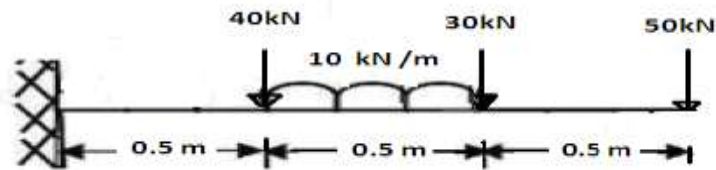

Fig.3
- Q.4** (a) Draw S.F and B.M for figure 3. **07**